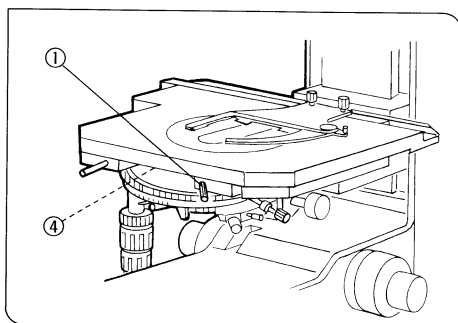

Fig. 32
(Figs. 32, 33, 34)
2. Loosen the stage clamping screw, and rotate the stage approximately 180°. (Fig. 32)
6. Lightly tighten the locking screw (4). Remove the centering knobs (3), and tighten the stage clamping screw (1). (Figs. 32, 34)